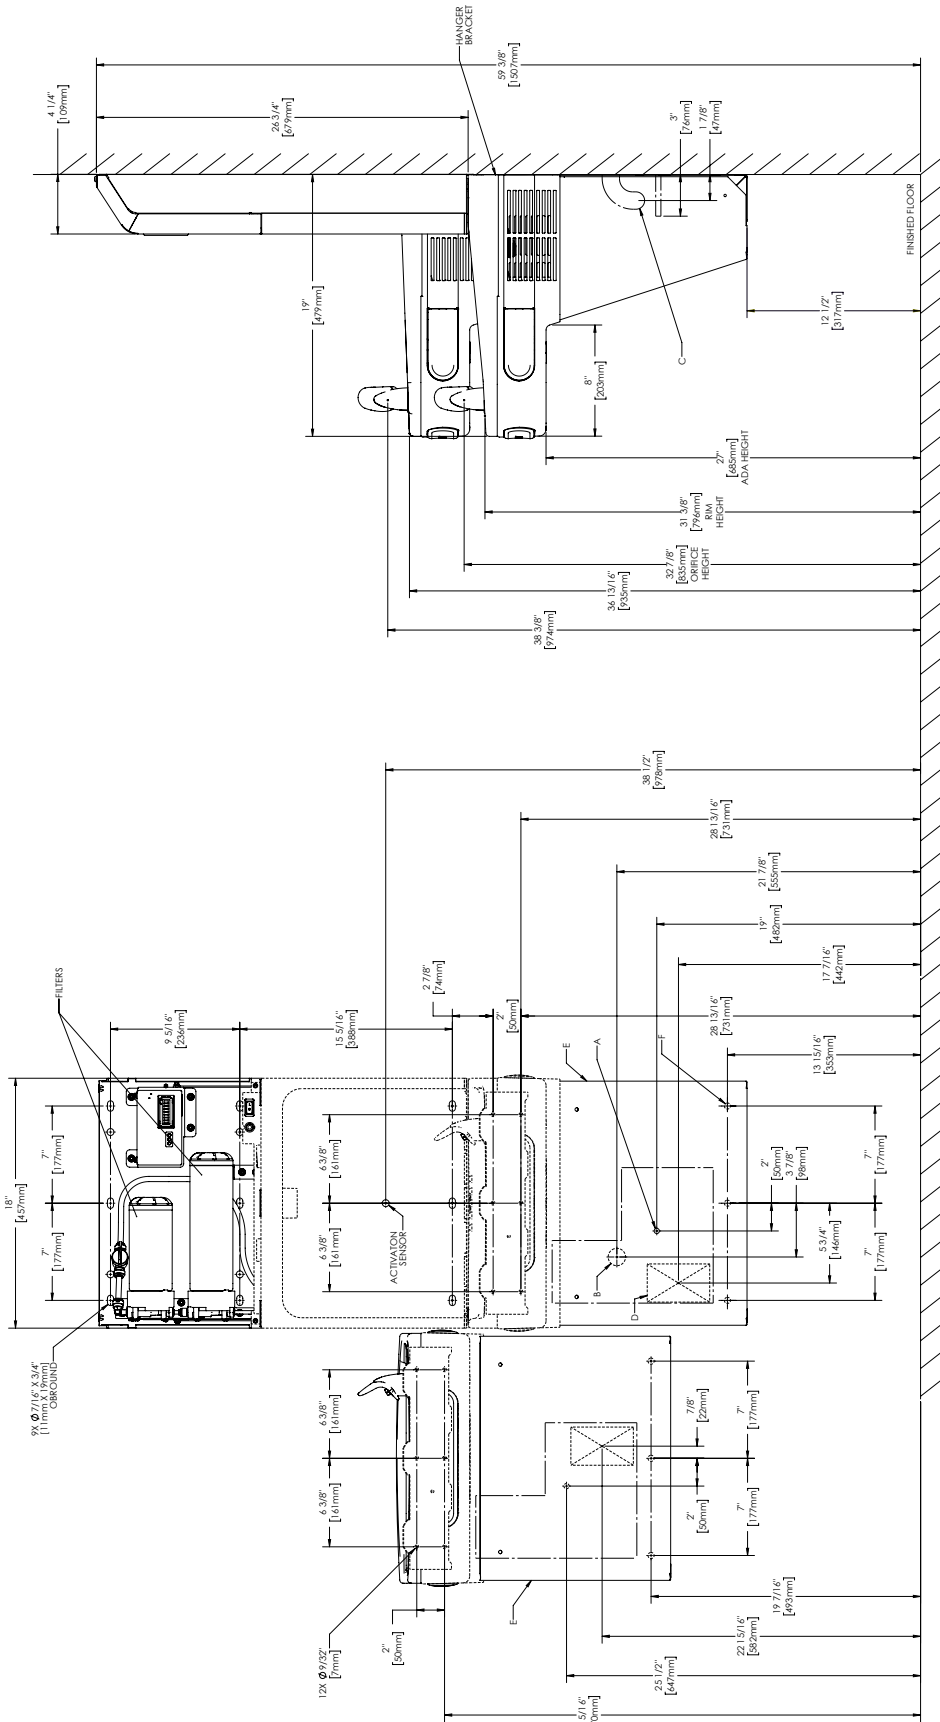

Fig. 1
Mount the hanger bracket as shown in Figures 1 (Pg. 7).
1. Hang the cooler on the hanger bracket. Be certain hanger bracket is engaged properly in the slots on the cooler back as shown in Figure 1 (Pg. 7).
3. Hang only the refrigerated cooler on the hanger bracket. Be certain hanger bracket is properly in the slots on the cooler backs as shown in Figures 1 (Pg. 7).
4. Hang the non-refrigerated cooler on the hanger bracket. Be certain hanger bracket is engaged properly in the slots on the cooler backs as shown in Figures 1 (Pg. 7).
6. Secure each cooler frame to wall by installing (2) screws and washers (not supplied) in lower holes. See reference figures in page 10.